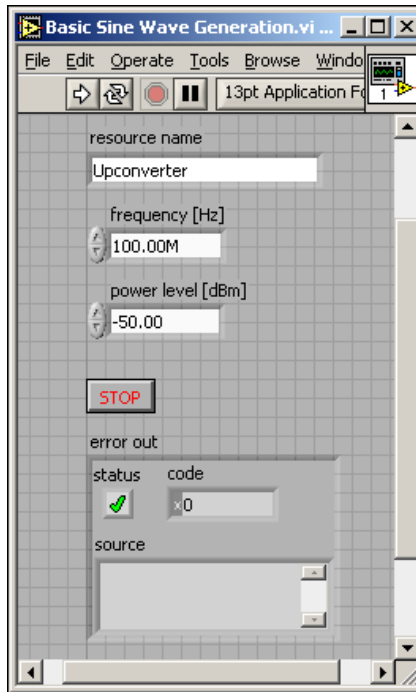

Figure 20. Basic Sine Wave Generation VI Front Panel Using NI 5670/5671/5672
24. Verify that the VI front panel looks like the example in Figure 20.